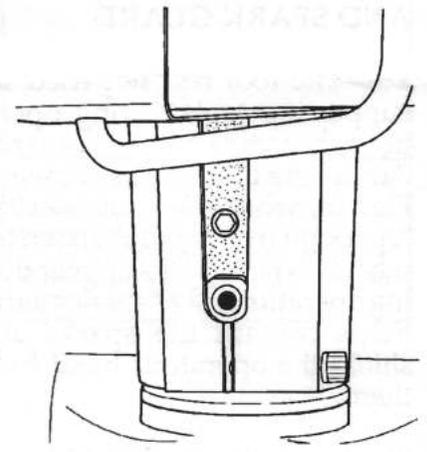

Fig. 20
21. Line up the knurled collar's "putty spot" with the arbor's setscrew (14), as viewed through the "neck" of the grinding wheel guard. See Fig. 20.